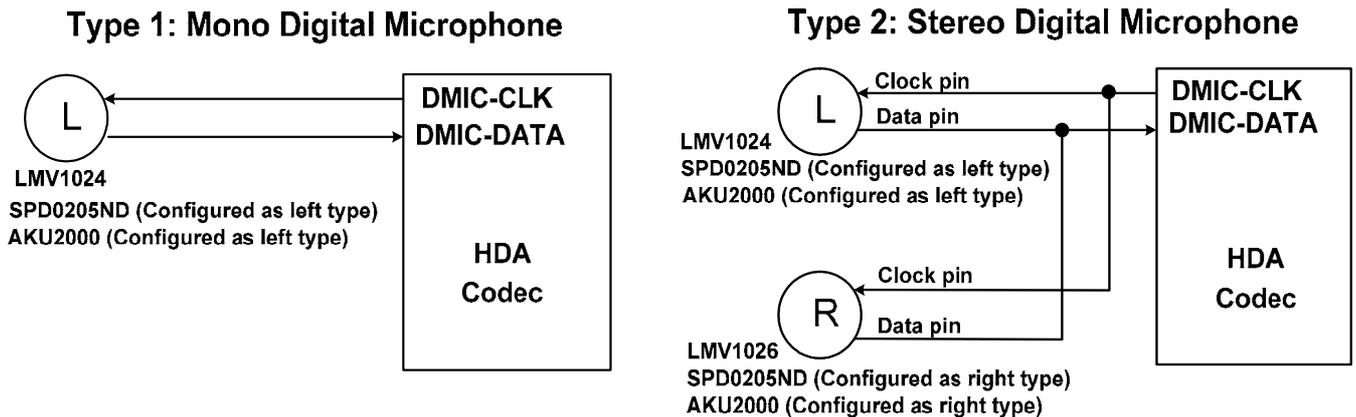

Figure 26. Digital Microphone Implementation-2
In Type 1 (Figure 26), the ALC262 uses one data pin to support mono input from digital microphones with an LMV1024 (L), SPD0205ND (L), or AKU2000 (L).
In Type 2 (Figure 26), the ALC262 uses one data pin to support stereo inputs from digital microphones with an LMV1024/1026 (L/R), SPD0205ND (L & R), or AKU2000 (L & R).